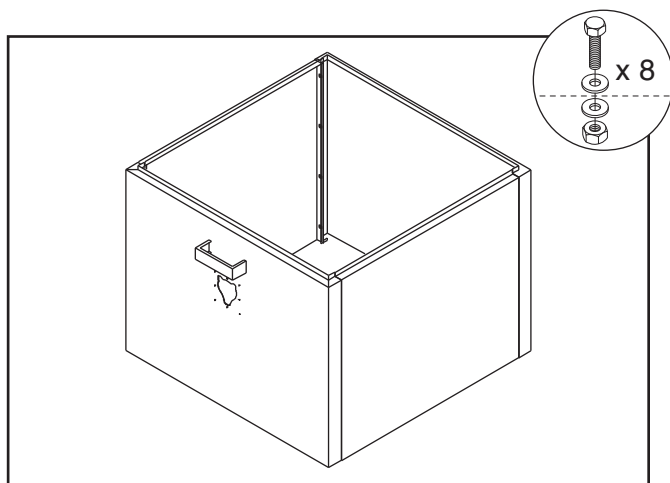

Figure 32. Side panels of drum assembly attached.
40. Attach front-right drum panel assembly to left-rear drum panel assembly with (8) $\frac{5}{16}$ "-18 x $\frac{3}{4}$ " hex bolts, (16) $\frac{5}{16}$ " flat washers, and (8) $\frac{5}{16}$ "-18 hex nuts (see **Figure 32**).